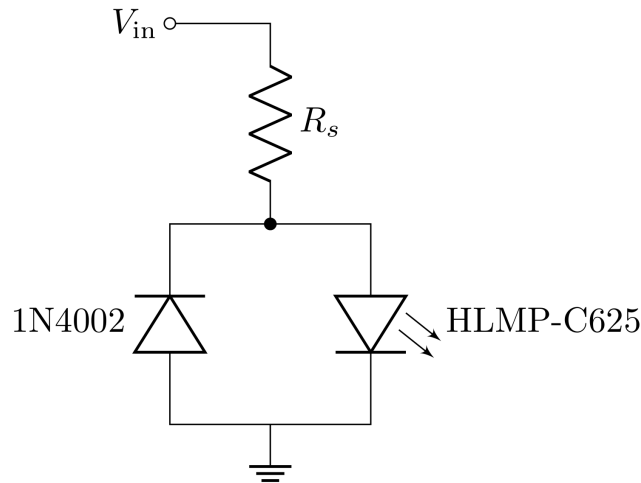

Figure 8: Optical communication link circuit
2. Set up a light emitting diode type HLMP-C625 as the transmitter on a separate small circuit board according to the schematic in Figure 8. Be sure to protect the LED with a series resistance that prevents the forward current exceeding 20 mA. *Hint:* You calculated the required resistance in the prelab. Also, the LEDs have a nominal breakdown voltage of 5 V, which, if exceeded, can damage the LED. Therefore, to prevent this from happening, connect a regular diode in parallel with the LED but with opposite polarity. This will protect the LED from a large negative voltage.